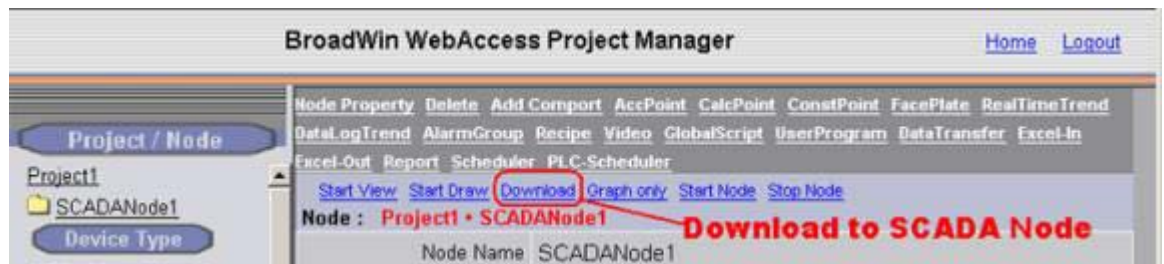

Figure 4-31 - SCADA Node Main page (Main.asp) - Download
1. Select the SCADA Node under your Project Name in the Project/Node list (Figure 4-31).
5. From Project Manager Select Start node (Figure 4-31).